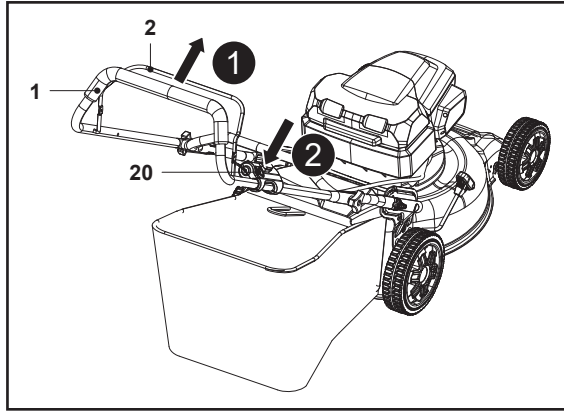

Fig. 16
1. Release the start lever (2) to stop motor and cutting blade (22) (Fig. 16, step 1).
2. **Switch off the machine:** Press and hold the power button (20) for 2 seconds until its indicator goes off (Fig. 16, step 2). Release the power button (20) afterwards.